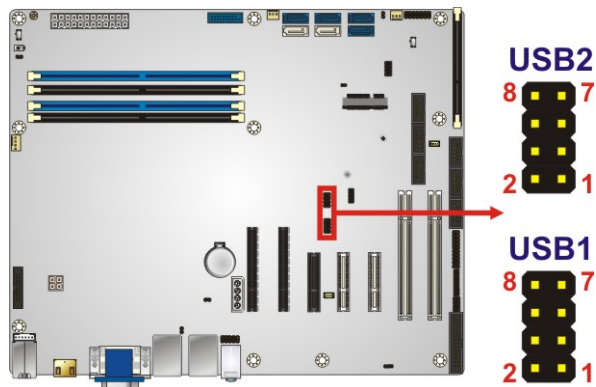

Figure 3-32: USB 2.0 Connector Pinout Locations
- CN Location: See Figure 3-32